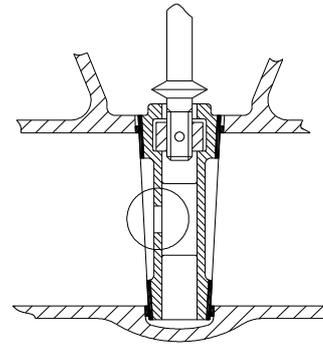

Fig. E3
- 1) connecting the body - bonnet cavity with the upstream side with a hole in a side of the wedge (Fig. E3): in this way the overpressure is discharged directly in the system avoiding any external leakage, therefore in this way the valve can be used only for unidirectional service (because is guaranteed the full tightness in one direction only);